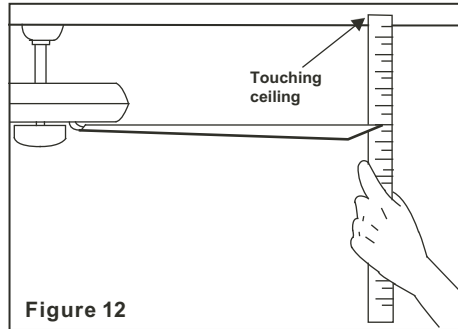

Figure 12
2. Most fan wobbling problems are caused when blade levels are unequal. Check this level by selecting a point on the ceiling above the tip of one of the blades. Measure this distance as shown in Figure 12. Rotate the fan until the next blade is positioned for measurement. Repeat for each blade. The distance deviation should be equal within  $1/8"$ .